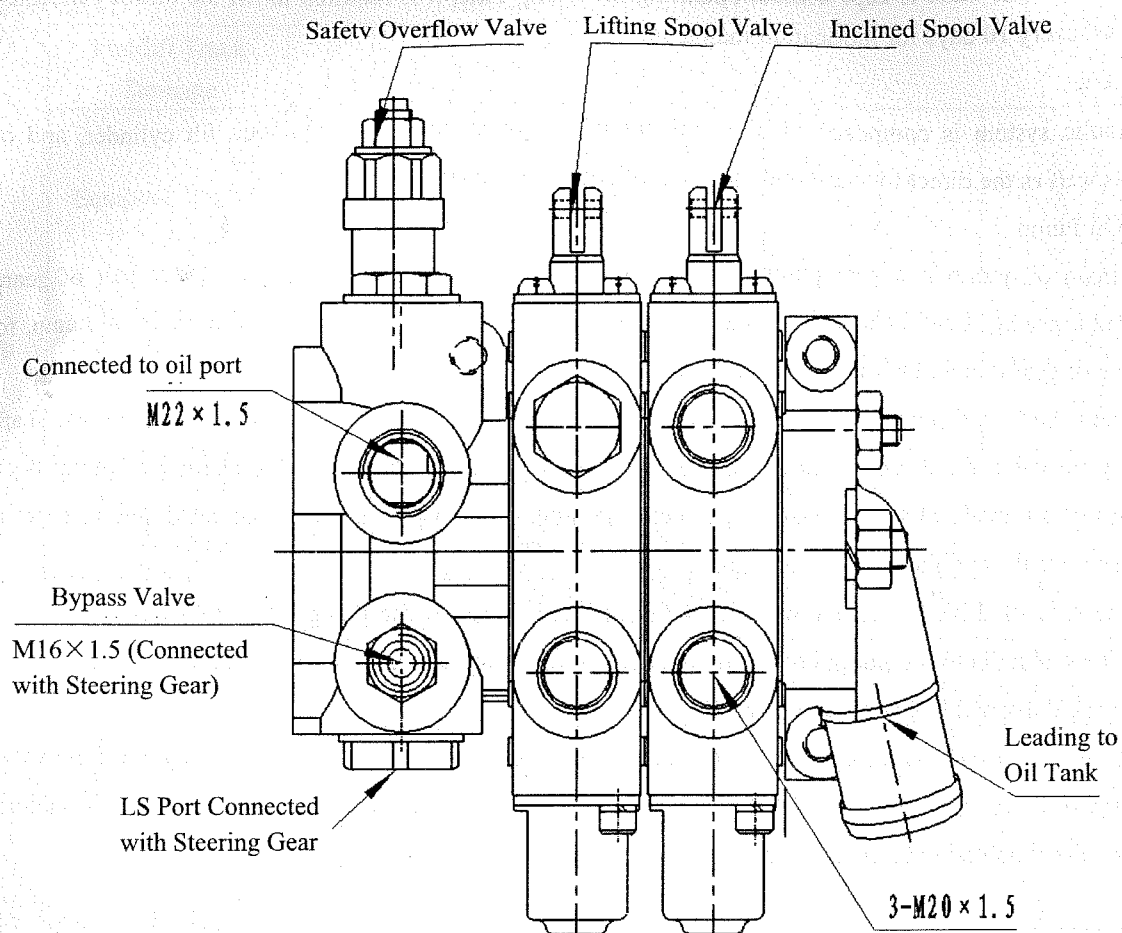

Fig 8-1 Multi-way Valve
8.3 Multi-way Valve and Bypass Valve (Fig 8-1)